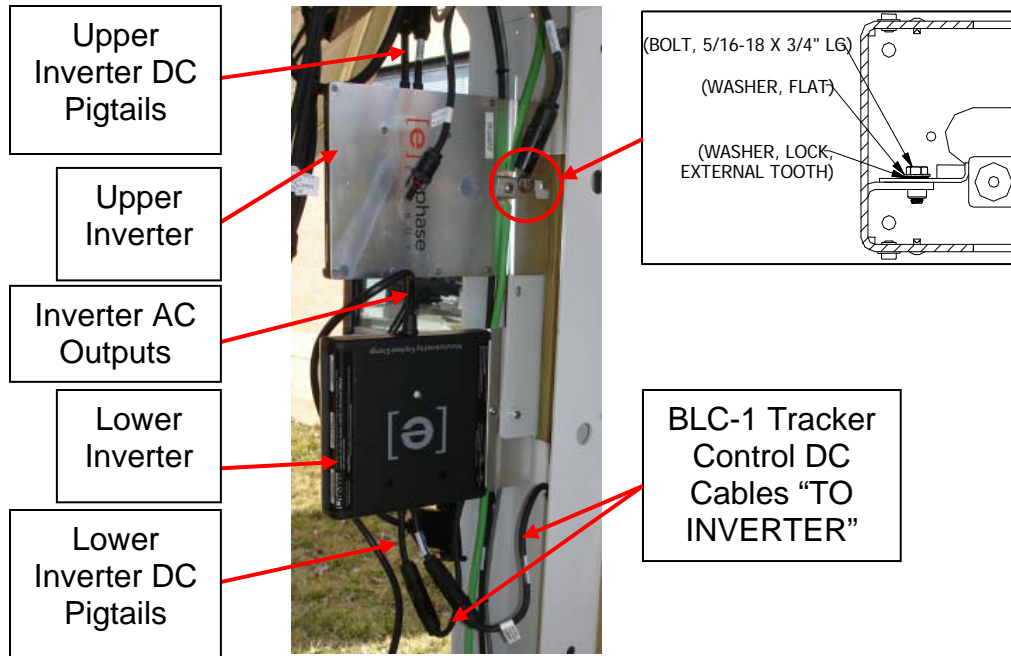

Figure 8
1. Attach the micro-inverters to the frame using the Inverter Mounting Hardware from the SPT2215 kits. Orient as shown in Figure 8.